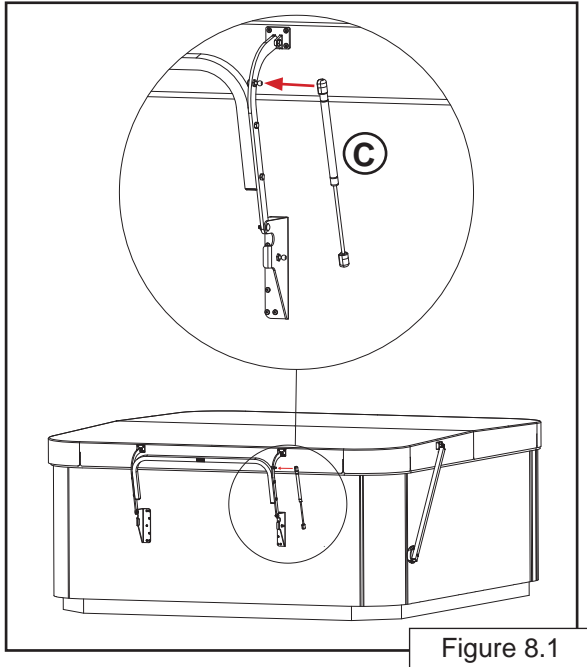

Figure 8.1
1. Locate the Gas Spring (C) and snap onto the upper ball stud (attached to the Pivot Arm Assembly) with the barrel end of the Gas Spring up (Figure 8.1).